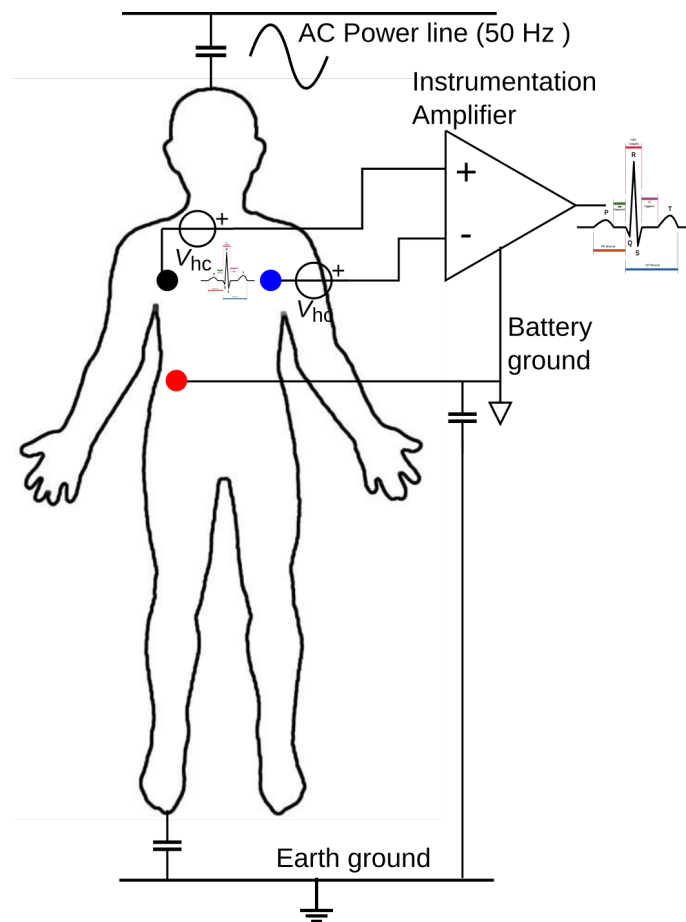
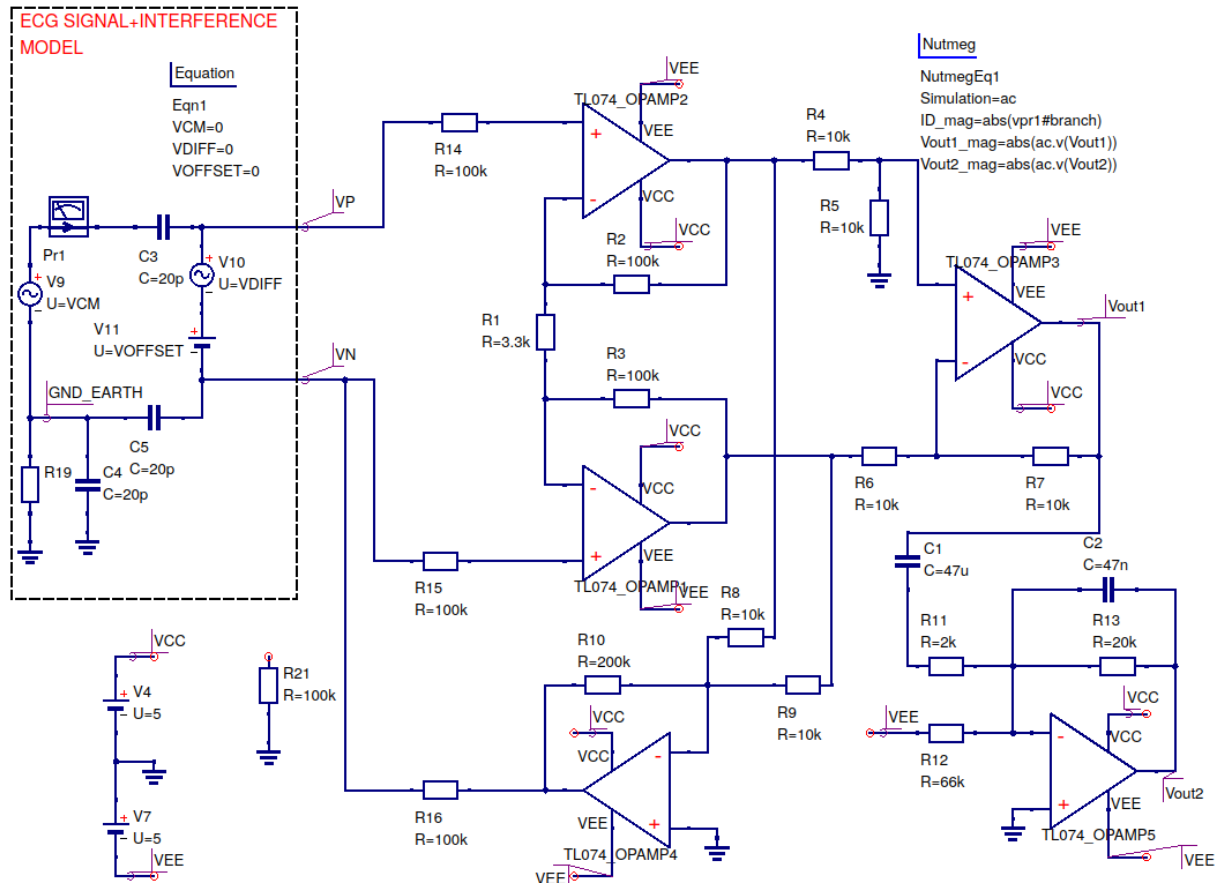

Figure 2: ECG measurement, simplified circuit
Figure 4: Simulation setup in QUCS-S
Measuring ECG bio-potential signals directly on heart tissues is naturally unpractical. However, it is possible to pick up part of these potentials by measuring voltages directly on the skin at different places near the heart. Fig. 2 shows how this measurement is typically performed. As it can be expected, the heart signals are strongly attenuated. The measured voltages over the skin are very weak, from hundreds of  $\mu\text{V}$  up to 1 mV. In addition, most of the ECG's power spectrum is concentrated approximately from 1 Hz up to 100 Hz making it extremely prone to 50 Hz common-mode (CM) noise coming from capacitive coupling to electric appliances and electric power lines surrounding the measurement environment. In fact, common-mode noise at the input of the amplifier can be a very serious issue since it can easily reach levels in excess of 50 mV! Therefore, differential amplification with very good common-mode rejection ratio (CMRR) is necessary. Furthermore, each electrode-skin contact produces a small DC voltage
Your task will be to dimension the components in the analog-front-end based on the specifications given in the previous section. In order to help you, a template with the circuit which is ready for simulation is provided for QUCS and QUCS-S (Fig. 4). Note that transient simulation only works properly in QUCS-S! In addition to the analog front-end, the human model from Fig. 2 which includes CM noise coupling is added.
In order to understand the importance of the CM feedback in our design, we will disconnect  $R_{16}$  from VN and run the same transient again. This is equivalent to remove the red electrode in Fig. 2. Now the ground reference of our circuit is floating with respect to the body and you should see a CM signal of approximately 150 V amplitude at the inputs! Clearly, we need the red electrode in place! But why not just connect it to the ground of our circuit? Let's try it. Connect  $R_{21}$  to VN and run the simulation again. Now the waveforms at VP and VN should show around hundred mV CM noise coupled from the power line. Although not necessarily a catastrophic situation, the tolerances in the components will introduce CM to differential conversion which will be much harder to mitigate. We will disconnect  $R_{21}$ , and reconnect  $R_{16}$ .
Finally, add the DC input offset. Set  $V_{DIFF} = 1$  mV,  $V_{CM} = 325$  V, and  $V_{OFFSET} = 50$  mV and run the transient simulation again.  $V_{out1}$  should have changed the DC output level.  $V_{out2}$  should be the same as before. Take a screen-shot of your transient simulation and append them to the end of this lab. Take also a screen shot of your final schematic showing all the components in Fig. 4.
2. The electrodes will be placed in the locations shown in Fig. 2. Make sure you identify the position and color of each electrode! Before connecting the electrodes, clean the skin with the “wound cleanser” (cotton with saline solution) and dry it with a napkin or cotton. The electrodes are of the “wet” type and come with conductive gel in the middle. To apply them, just remove the plastic adhesive that protect the contact surface and place them on the skin with a soft massage making sure there are firmly attached to the skin (don’t drop the plastic adhesive since you can still reuse the electrodes a couple of times!).